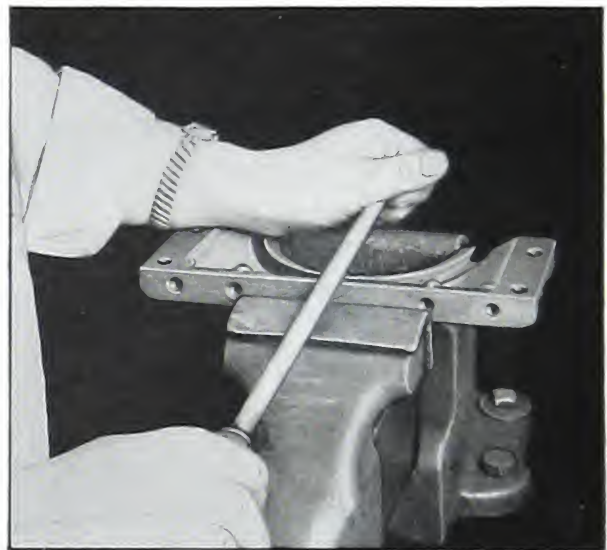

Fig. 2-32. Finishing relief
9. Using a 12" round file, file the notch until sharp edges and burrs are removed as shown in Fig. 2-32. Upon completion, the notch should be semi-circular and have a $\frac{5}{16}$ " radius.